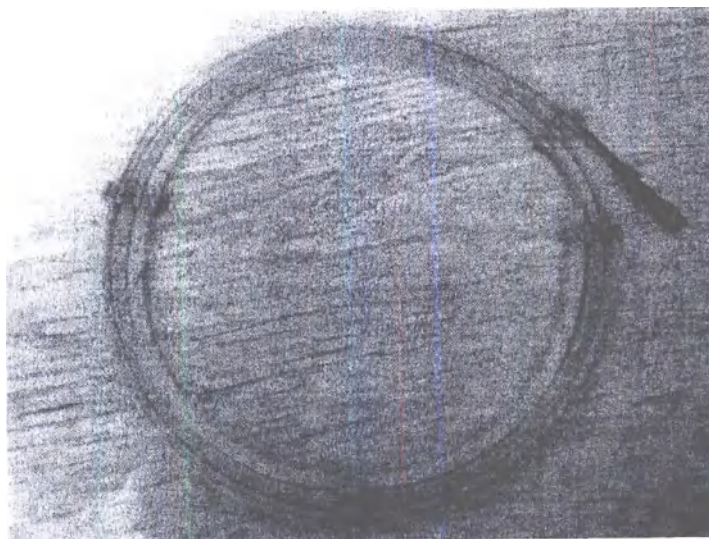

Figure 3 - Reinforced microcatheter for installation (delivering catheter Vasco+)
❖ Reinforced microcatheter Vasco+ (4) for installation (hereinafter referred to as delivering catheter Vasco+) (figure 3):